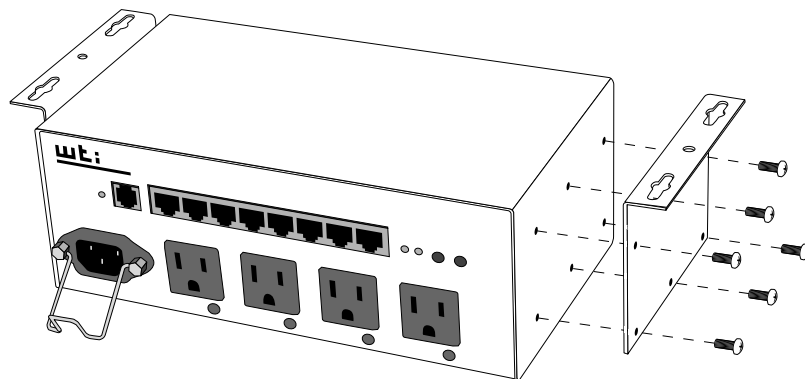

Figure D.1: Wall Mounting (Front Panel Facing Upwards)
- **Front Panel Facing Upwards:** Use the screws provided with the mounting kit to secure the wall mount brackets to the RSM-8R4-DCM unit as shown in Figure D.1. Use six screws per mounting bracket as shown.